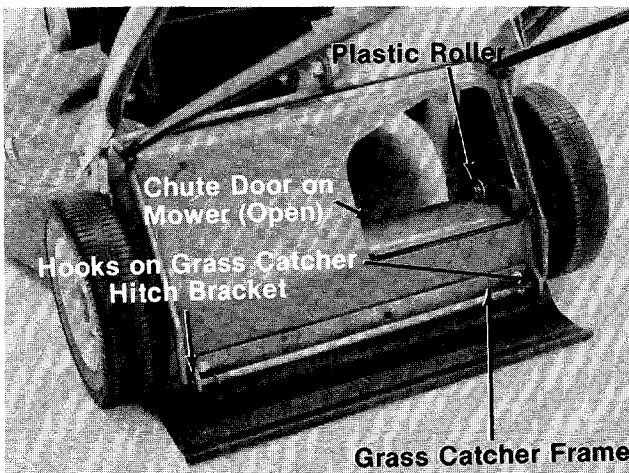

FIGURE 9.
1. Attach the grass catcher frame to grass catcher hitch bracket on rear of the mower by hooking grass catcher into hooks on grass catcher hitch bracket. See figure 9.
2. Lift the rear of grass catcher up. The roller on the grass catcher will push the chute door on the mower open. See figure 9.
Figure 9 is shown with the chute door open for photo clarity only.